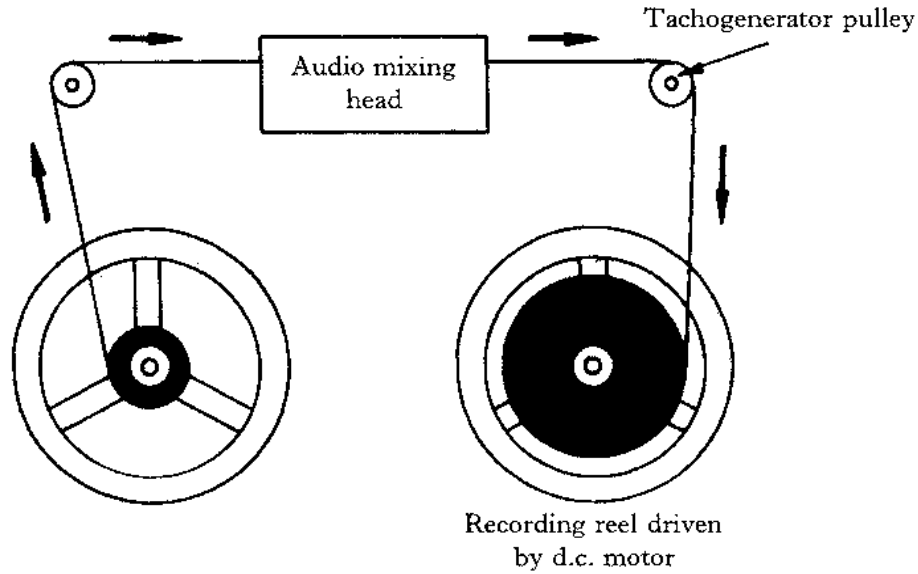

Figure Q11A
11. Figure Q11A shows the layout of a new audio mixing desk.